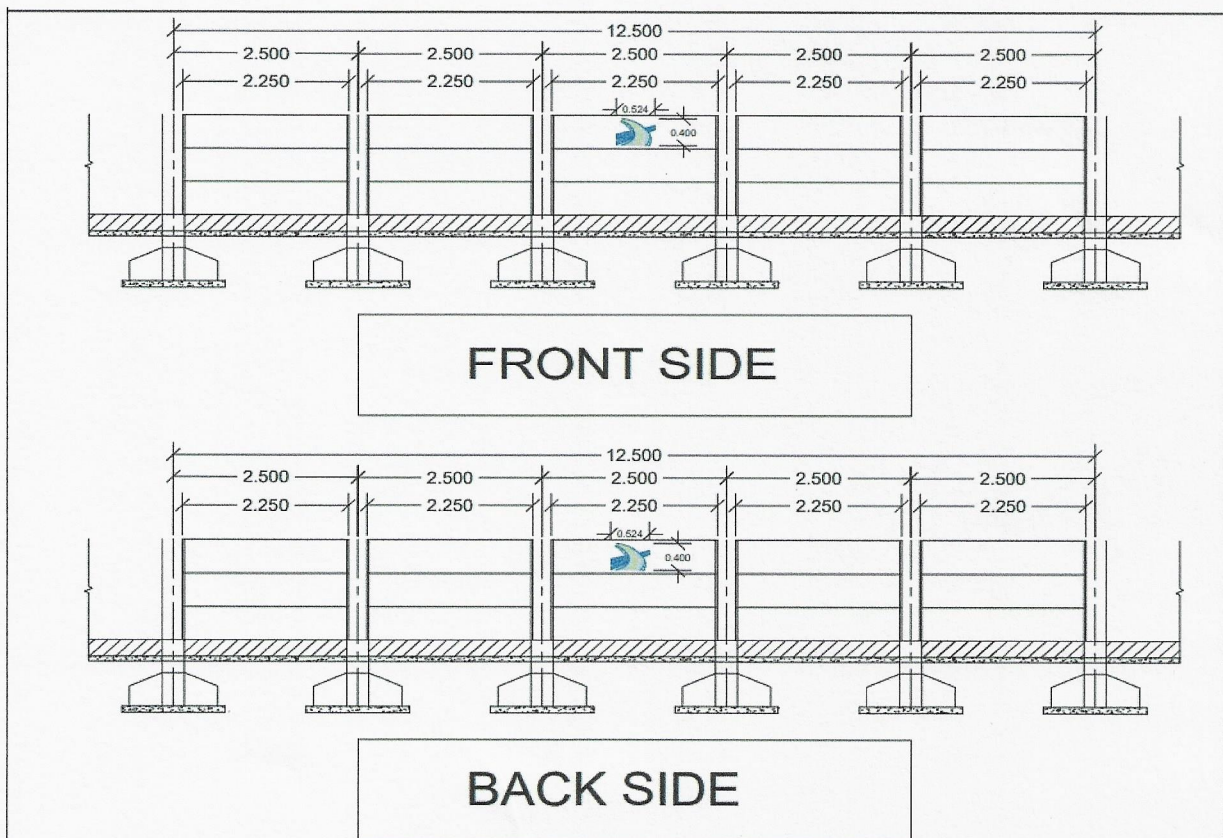

Figure- 4: NHAI logo on top panel of Boundary Wall in Access Control Highway/ Expressway.
7. NHAI is constructing Access Control Highway/Expressway where boundary wall is being constructing on both sides along ROW. As per contract drawing 3 panels each of height 0.5 meter are provided in boundary wall. Size of NHAI logo will be 0.524 m X 0.4 m and will be provided on top pre-cast panel of boundary wall at interval of 25 m on front and back side alternatively as shown in **Figure-4**.